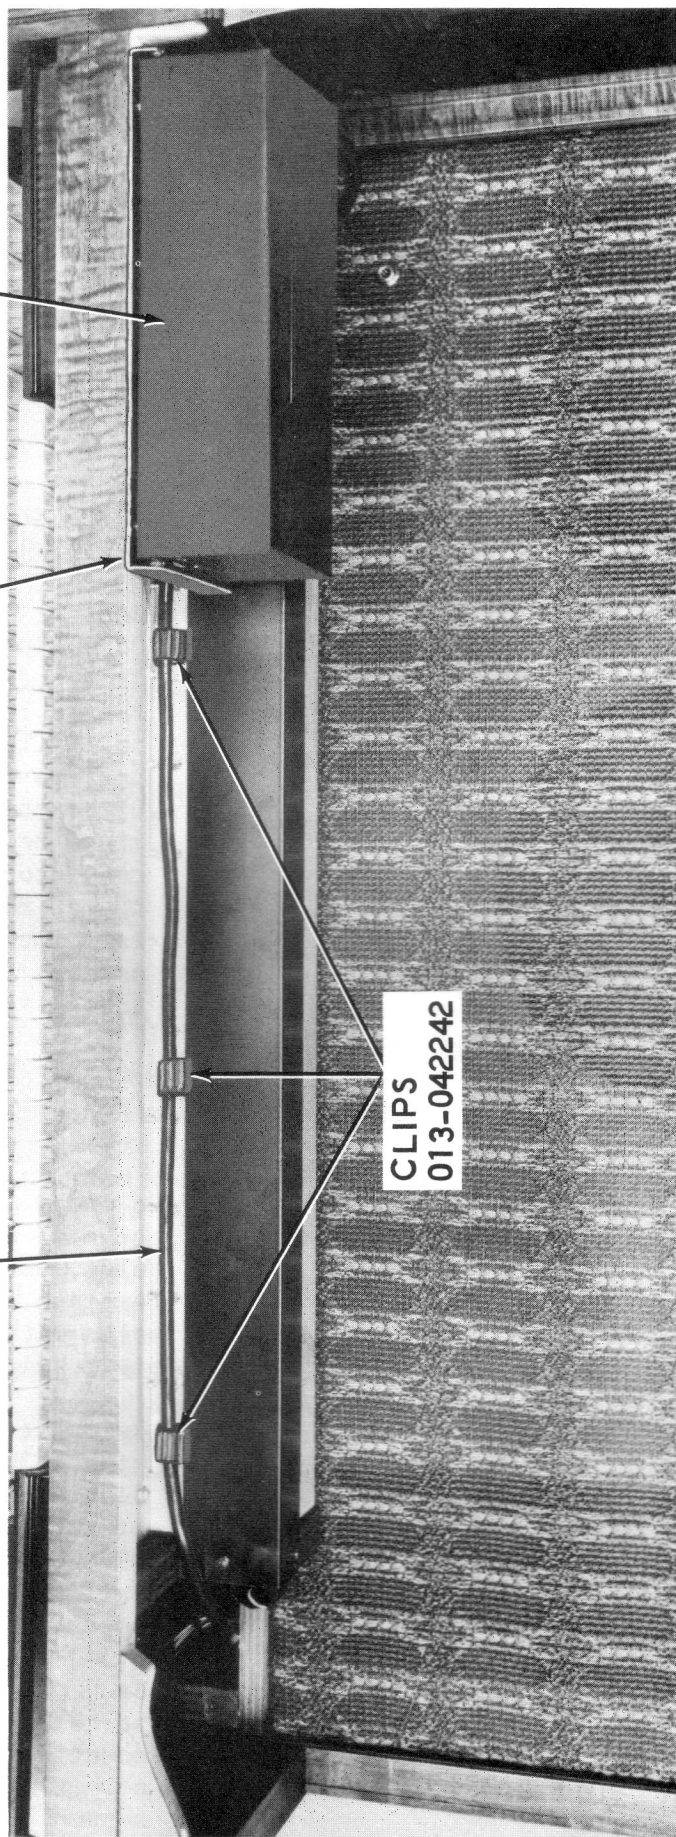

FIGURE 1-1.
- c. Install mounting rail, 035-042081, open end toward front of organ as shown in Figure 1-1. Before fastening rail, place control unit on floor under rail. Drape control cable from right to left, (multi-pin connector toward left) over top of rail, then fasten rail into place with three screws, 884-050933, driven into pilot holes provided. Place adhesive felt 042-035141 over head of right side mounting screw.
- h. Install three adhesive-backed clips, 013-042242, at approximate locations shown in Figure 1-1.
- c. Install mounting rail, 035-042081, open end toward front of organ as shown in Figure 1-1. Before fastening rail, place control unit on floor under rail. Drape control cable from right to left (multi-pin connector toward left) over top of rail, then fasten rail into place with three screws, 884-050933, driven into pilot holes provided. Place adhesive felt 042-035141 over head of right side mounting screw.
- i. Install three adhesive-backed clips, 013-042242, at approximate locations shown in Figure 1-1.